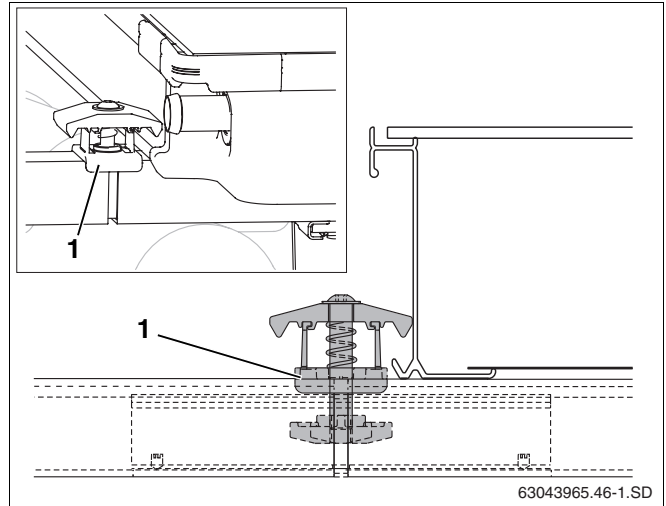

Fig. 45 Fitting a double-sided collector clamp
- ▶ Insert the double-sided collector clamp, nut first, into the opening made by the profile rail and plug connector so that the plastic spacer (Fig. 45, **Item 1**) surrounds the profile rail.